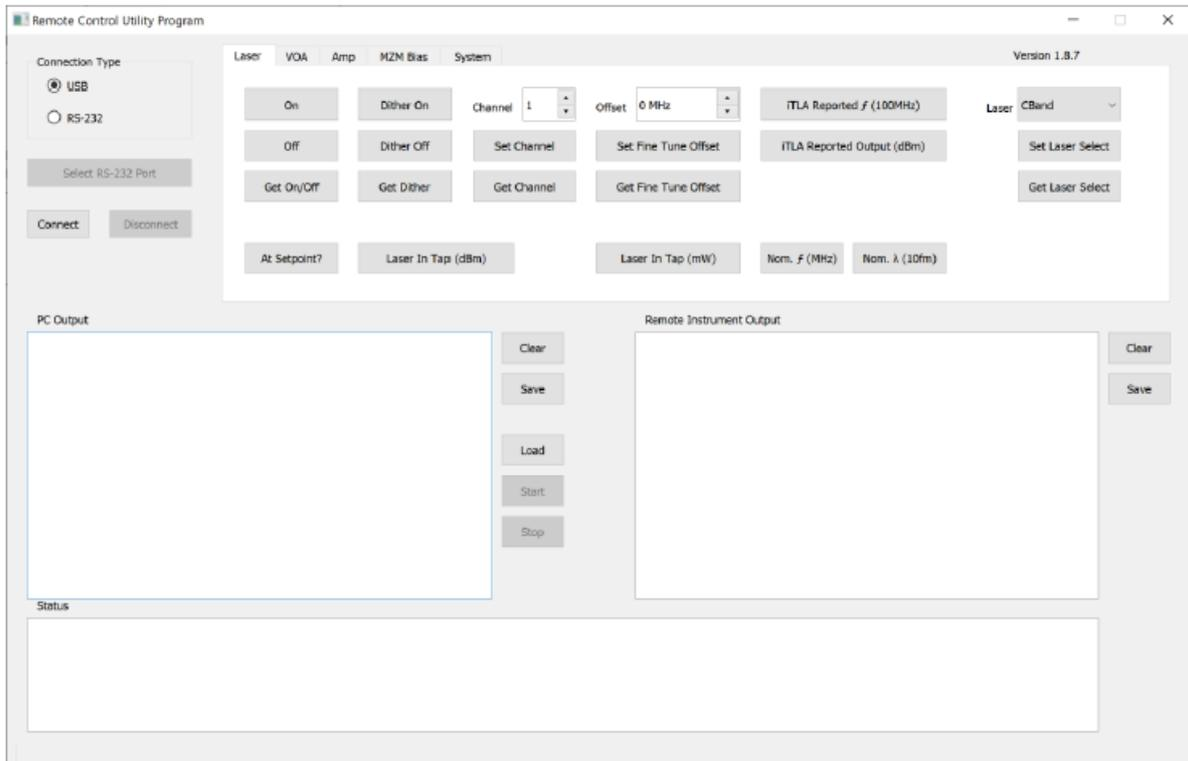

Figure 9 Laser Tab
- The functions in the Laser tab (Figure 9) correspond to the commands described in Section 2.3: Laser Control Commands